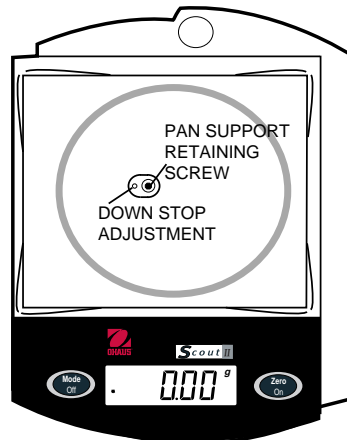

Figure 4-2. Pan Support Retaining Screw (B) Location.
1. Remove power from the balance, then remove the Pan (6).
2. Remove the Pan Support Retaining Screw (B) (see Figure 4-2). Remove the Pan Support (5) and inspect and clean the area beneath the Pan Support (5).